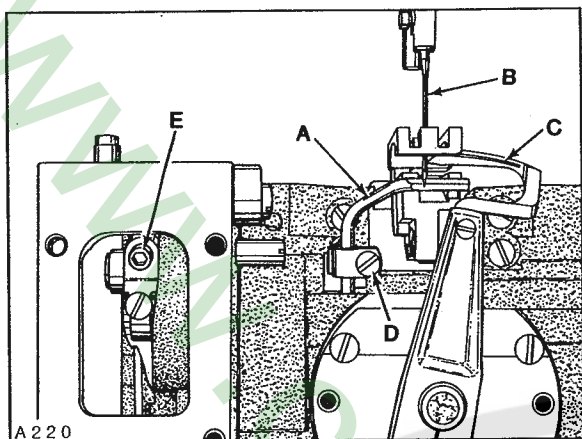

Fig. 14
At extreme forward end of travel, rear needle guard (A, Fig. 14) must be set horizontally not to contact needle/s (B) with a maximum clearance of .002 inch (.051mm).